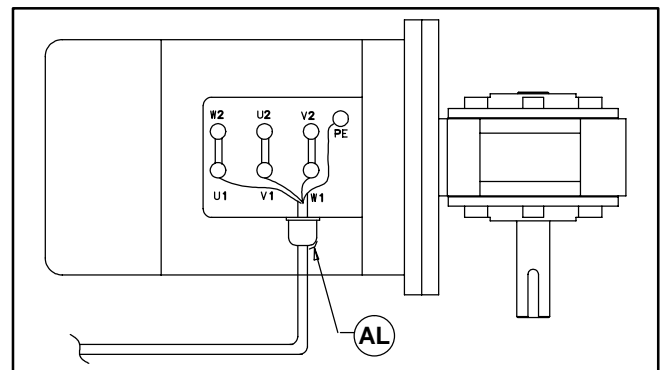

Figure 22
- Record wire colors on terminals U1, V1, W1 & PE (Figure 22). Loosen terminals U1, V1, W1 & PE and remove wires.
- Loosen cord grip (AL of Figure 22) and remove cord.